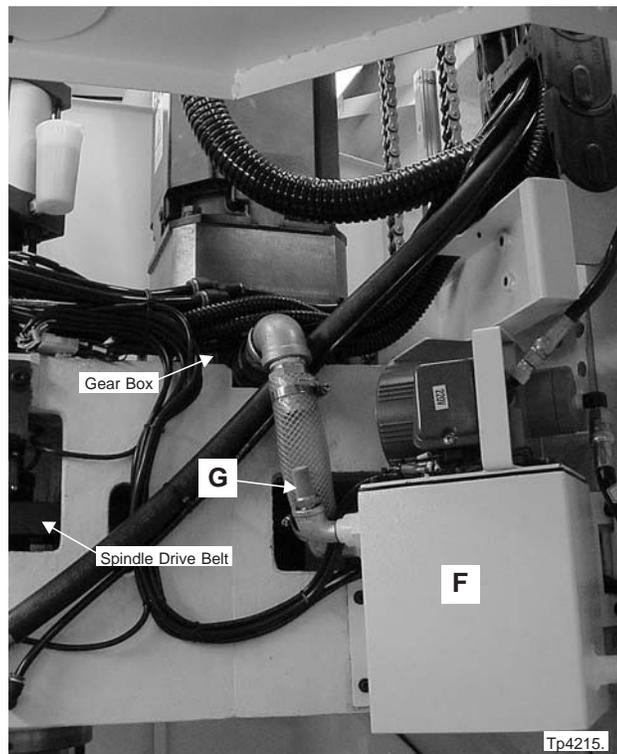

Figure 4.7 - High-Torque Gear Box Tank
4. Open the right side door and locate gear box tank "F", Figure 4.7.